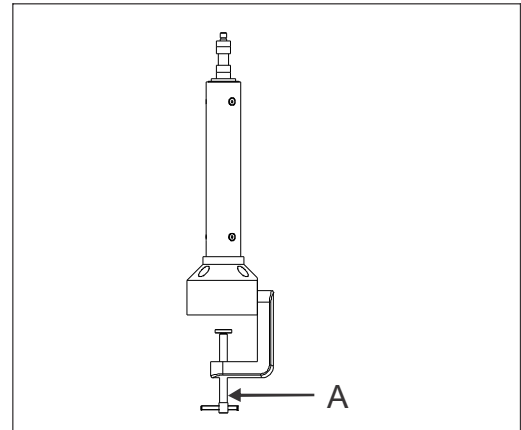

Fig. 2
- 7.1 Engage the column on the table top by tighten the clamping screw from the bottom as shown as (A) in Fig. 2.